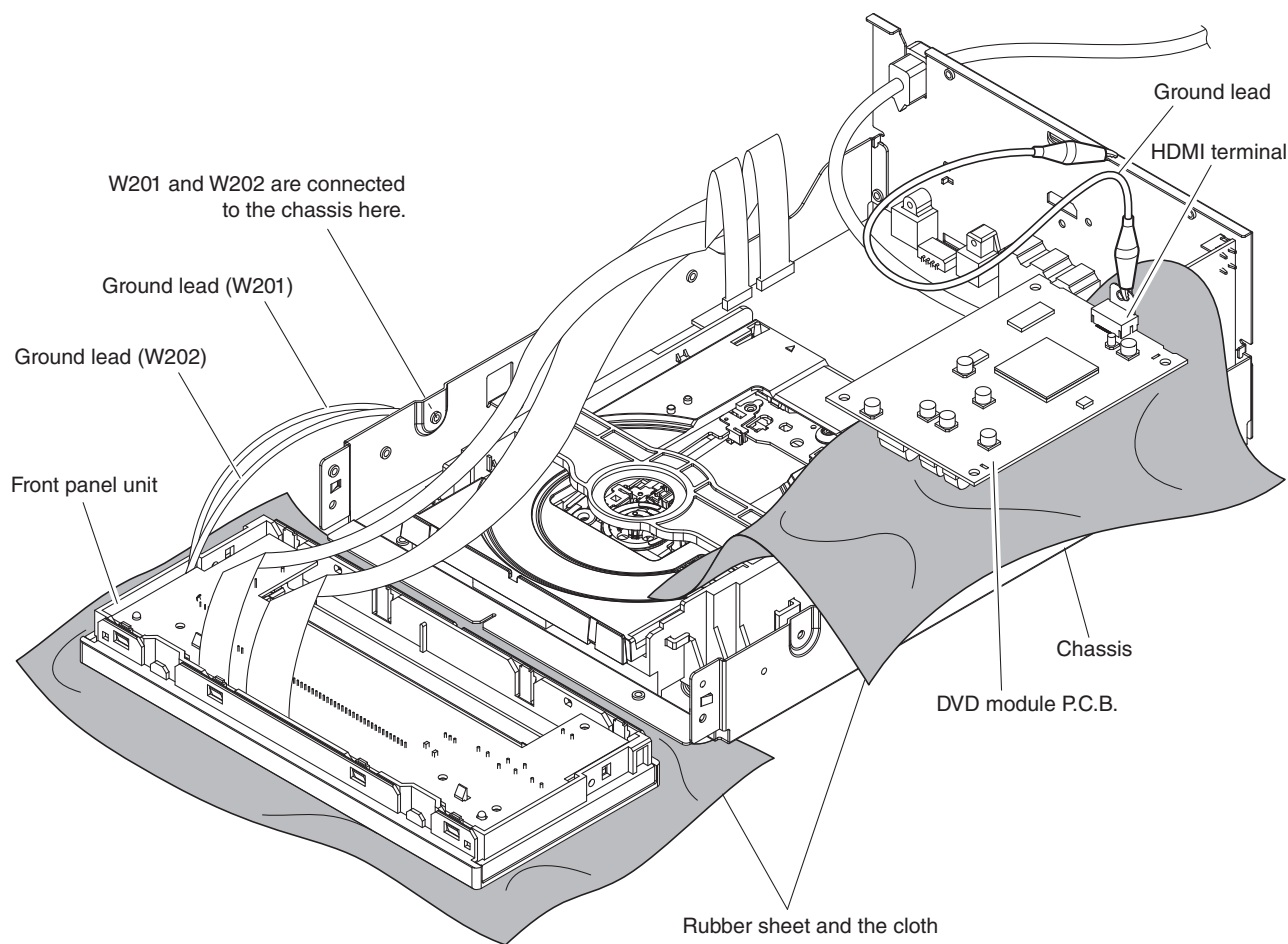

Fig. 4
- Spread the rubber sheet and the cloth. Then place the front panel unit and the DVD module P.C.B. on the cloth and check it. (Fig. 4)
- Connect the ground point of the front panel unit (W201–202) and HDMI terminal of the DVD module P.C.B. (JA931) to the chassis or the rear panel with a ground lead or the like. (Fig. 4)